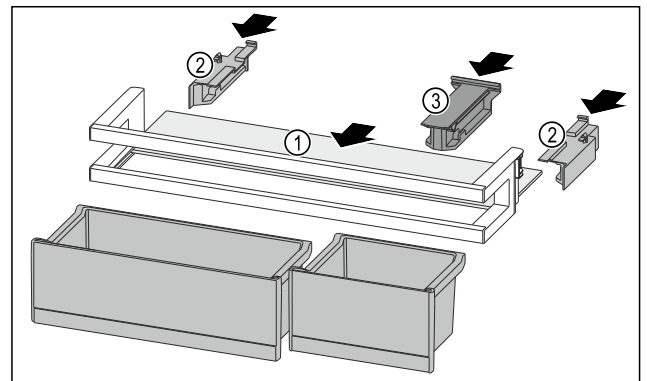

Fig. 205
- ▶ Push the shelf Fig. 205 (1) into the side recesses.
- ▶ Insert the side parts Fig. 205 (2).
- ▶ Insert the holding part Fig. 205 (3).